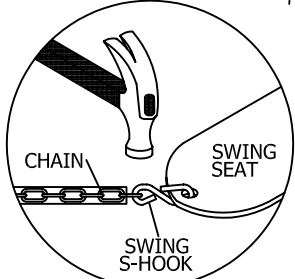

FIG. 17
Step 1: Attach the S-hooks to the swing seats, Slide the bigger end of the S-hook into the hole located on swing seat. Close S-hook with hammer as shown in Fig. 17.